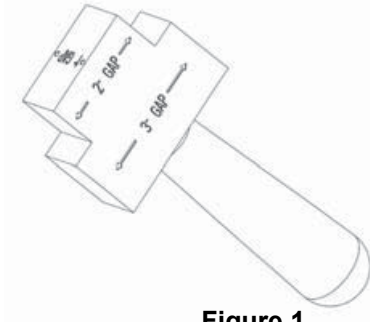

Figure 1
- Always use safety blocks under any load being lifted with the tool. See figure 1.